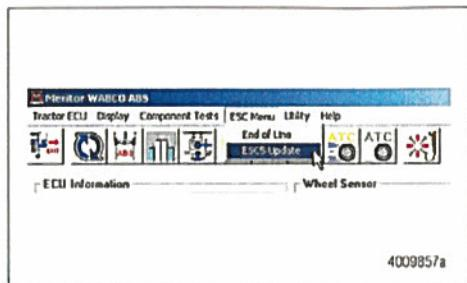

Figure 3
3. On the main ECU screen, select from the top bar click on "ESC Menu". Figure 3.